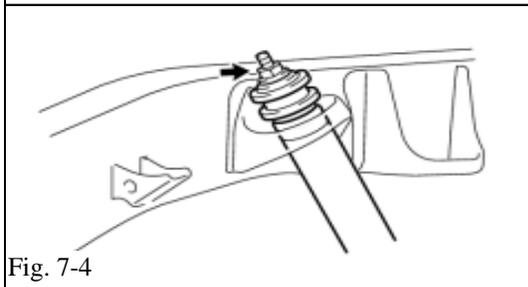

Fig. 7-4
- (h) While holding the piston rod, remove and save the OE top nut, retainer, No. 1 cushion and discard OE shock absorber. (Fig. 7-4)
- (g) Install the OE top shock hardware (top cushion, retainer with the nut) onto the new TRD shock absorber and temporarily install onto vehicle. (Fig. 7-4)